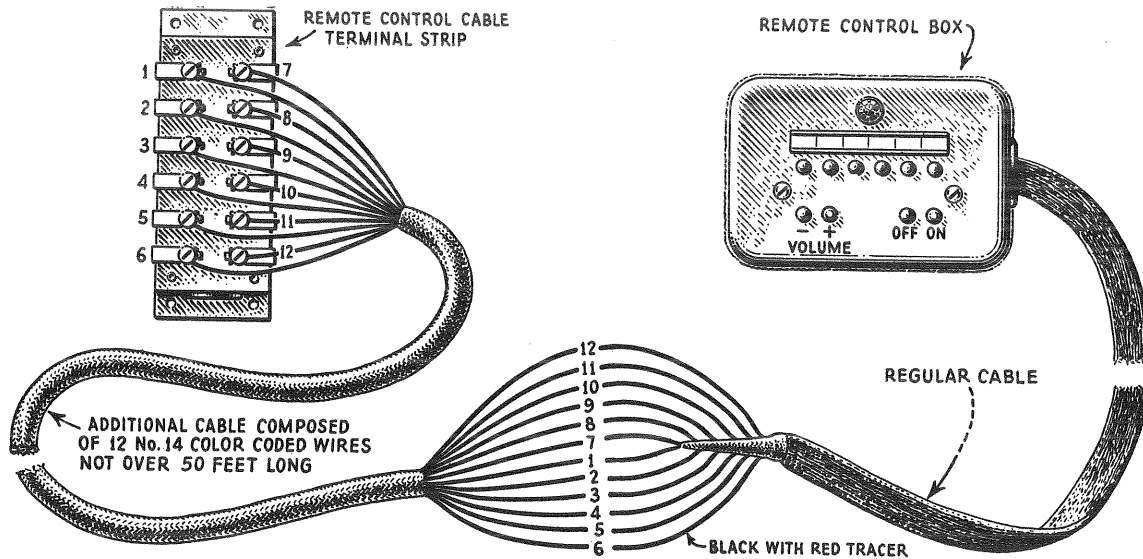

Figure 5—Wiring diagram of method for connecting additional cable
If, however, it is desired to place the remote control box at a greater distance from the set, any twelve conductor cable, the wires of which are No. 14 or larger in size, may be used to splice onto the regular cable and increase the total length up to seventy-five (75) feet. Figure 5 shows the method recommended for adding this additional cable.